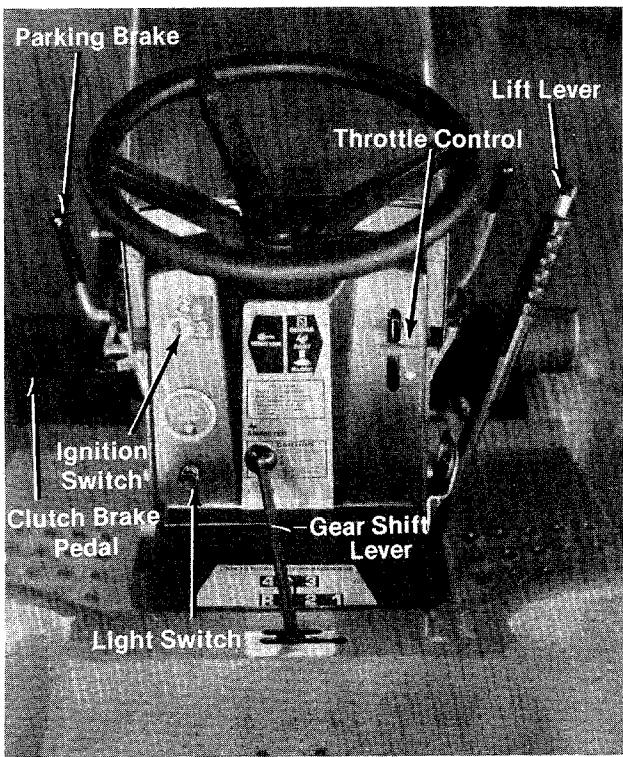

FIGURE 13
a. **Throttle control.** The throttle control is used to regulate the engine speed and choke the engine. The engine should be operated from  $\frac{3}{4}$  to full throttle when operating the cutting deck or snow thrower. (Optional) (See figure 13.)
b. **Gear Shift Lever.** Use the following guide for gear selection. See figure 13.
**d. Clutch-Brake Pedals** Depress both of them all the way down to stop or shift gears. Release pedals slowly to engage. See figure 13.
**g. Ignition Switch.** Turn the switch all the way to the right to engage the starter. As soon as the engine starts, release the ignition key so that the starter is switched off. Turn the key to the left to shut off the engine. See figure 13.
**h. Light Switch.** Pull the light switch out to turn on the lights. The ignition switch must be on to operate the lights. See figure 13.
**i. Ammeter.** The ammeter registers the rate of battery charge or discharge. The ammeter should register on the plus (+) side when the engine is running in the fast position until the battery is completely charged. With a fully charged battery or with the engine idling the ammeter will not show a charge. See figure 13.
Step 2. With the machine set on level ground place the gear shift lever in NEUTRAL (N) position. See figure 13.
Step 5. Set the throttle control in the CHOKE position. See figure 13.
Step 6. Turn the ignition key to the right to START position to start the engine. Allow the key to return to the ON position. See figure 13.
To stop the rider from moving forward or backward, depress the clutch-brake pedals. See figure 13.